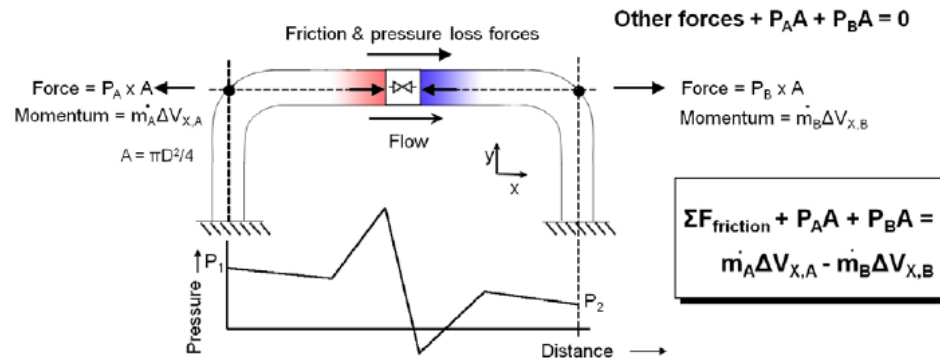

Figure 1: Difference force type schematic. For Difference Exit, the area used at End Node is user defined.
- **Difference** - Difference forces are defined as the unbalanced force between two nodes, or computation stations along two sequential pipes. An example of this is the hydraulic loading between two elbows along the length of a pipe. See Figure 1 below.